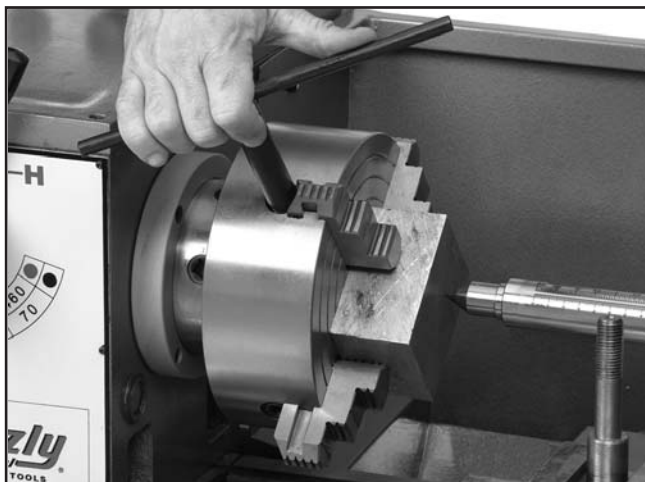

Figure 24. Centering workpiece (toolpost removed for clarity.).
3. Turn the tailstock quill so the dead center applies enough pressure to the center point of your workpiece to hold it in place (**Figure 24**), then lock the tailstock quill.
5. Tighten each jaw in small increments. After adjusting the first jaw, continue tightening in opposing sequence (see **Figures 24 & 25**). Check frequently to make sure you have not wandered off your center point due to applying too much pressure to a single jaw.